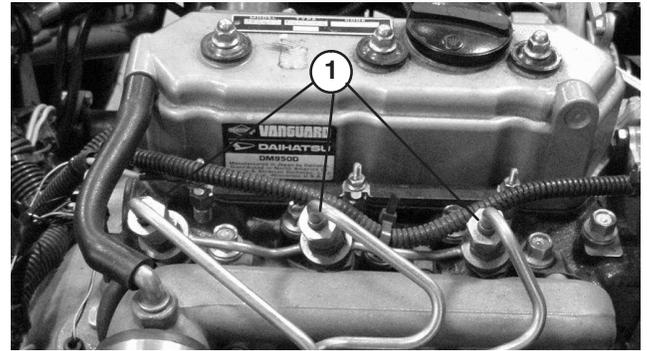

Figure 47
2. Loosen the pipe connection to the No. 1 nozzle and holder assembly (Fig. 47).